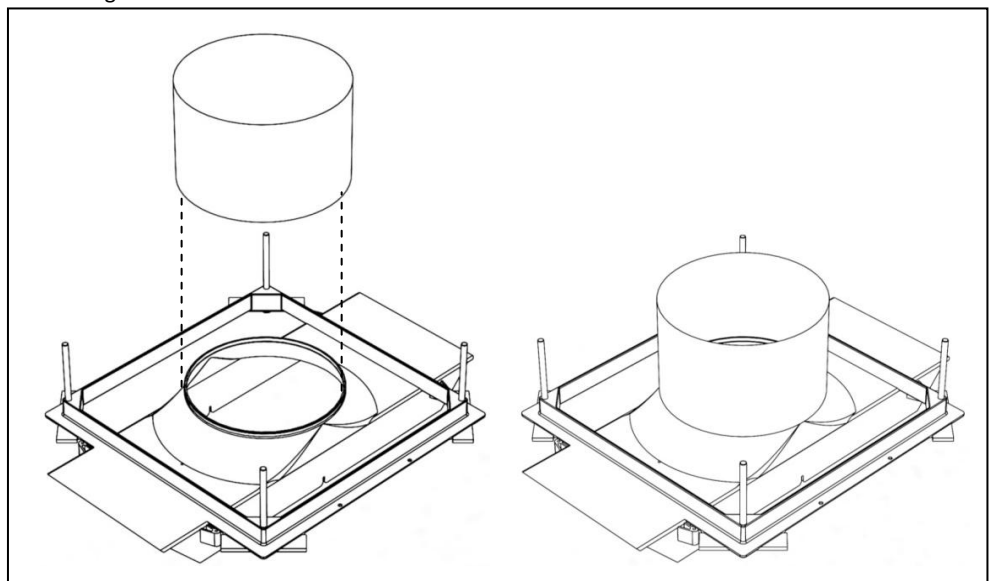

Fig 11: Fit the black plastic duct onto the brace assembly ensuring a tight, sealed fit
- Turn the assembly over and add the black plastic duct work to the top of the assembly with the notch upwards (Fig 11). The notch is shown circled below.